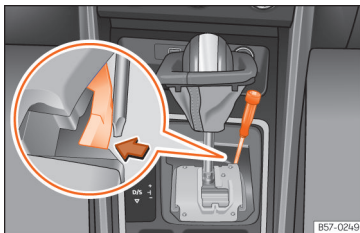

Fig. 92 Selector lever: manual release in the parking position.
- Using the flat part of a screwdriver, press the yellow tab sideways and keep it pressed down »» **Fig. 92.**